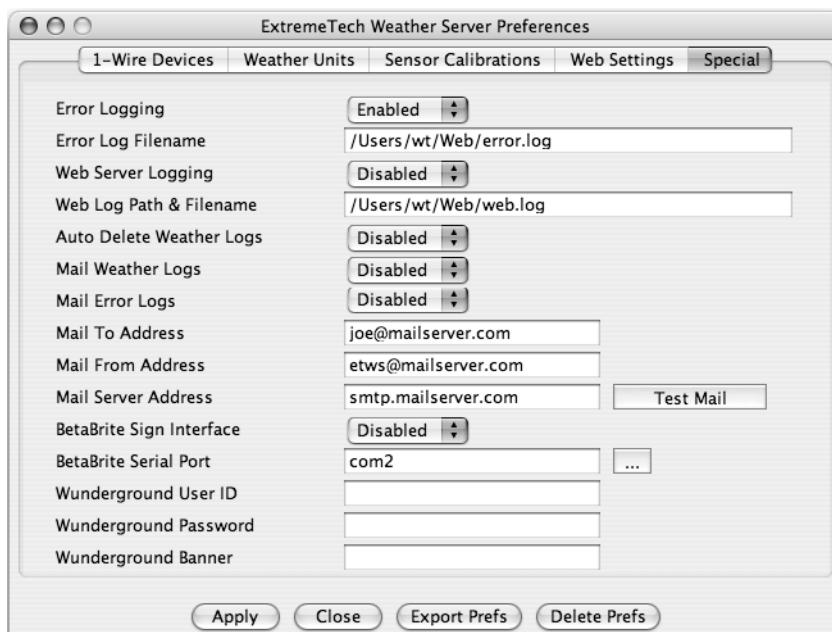

FIGURE B-6: Special settings.
20. Click the Special tab to see the remaining settings available as shown in Figure B-6. For now, leave these settings at their default.